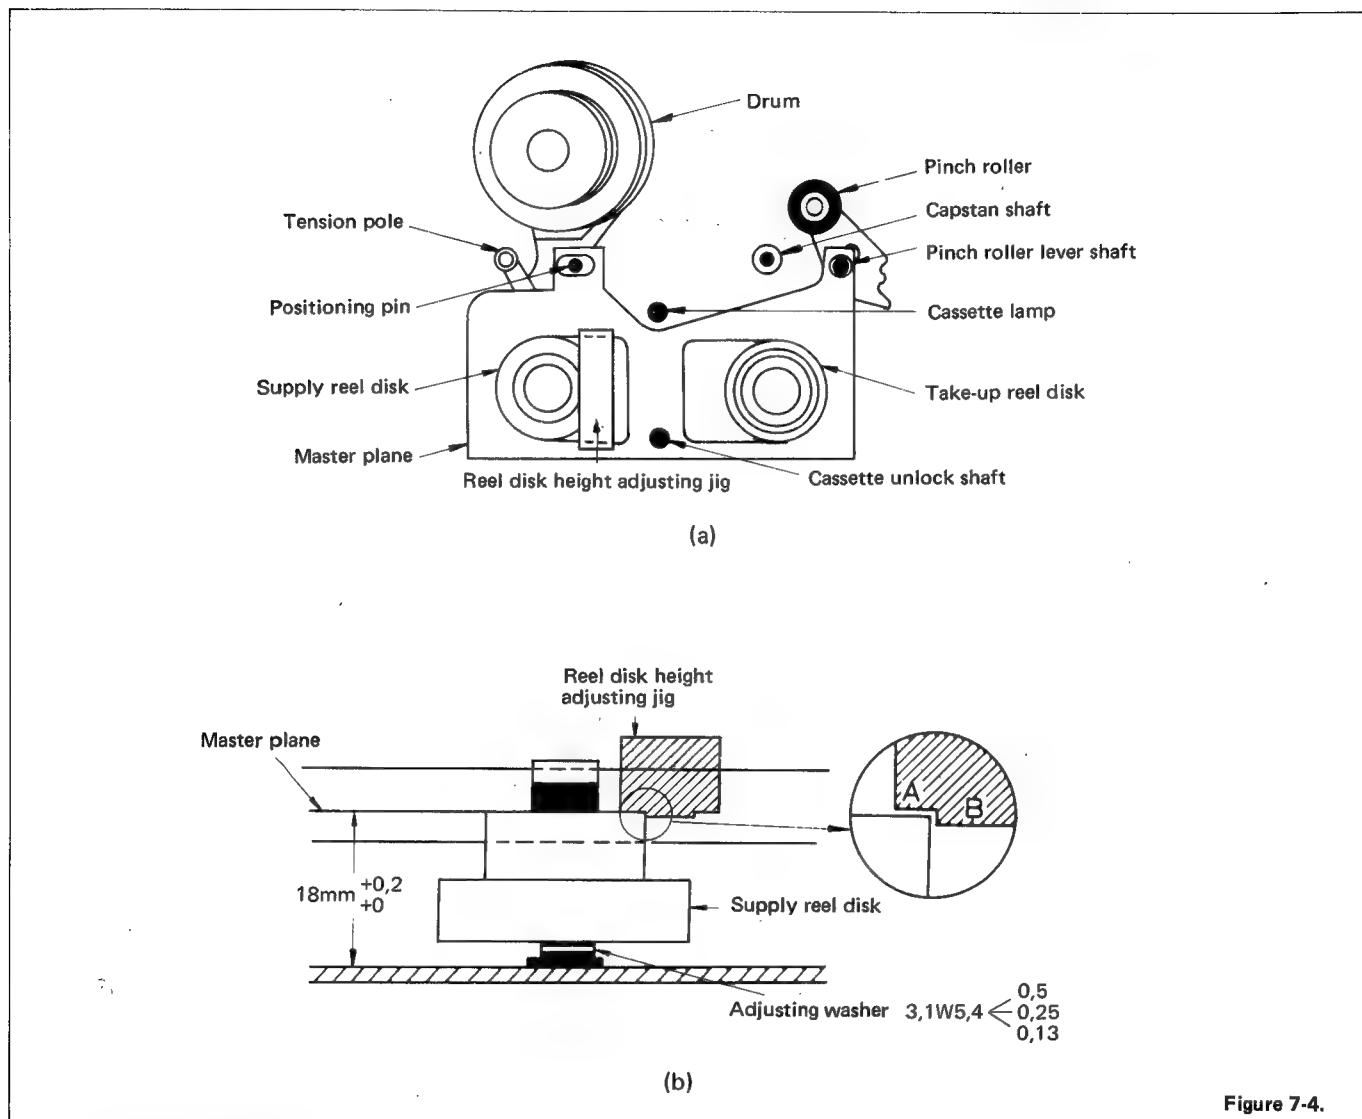

Figure 7-4.
- 1) Remove the cassette housing. Set the master plane in the mechanism as shown in Figure 7-4(a). Use care so that the master plane should not contact the drum.
(see Figure 7-4(b)). If the height is wrong, make adjustment with height-adjusting washer(s).